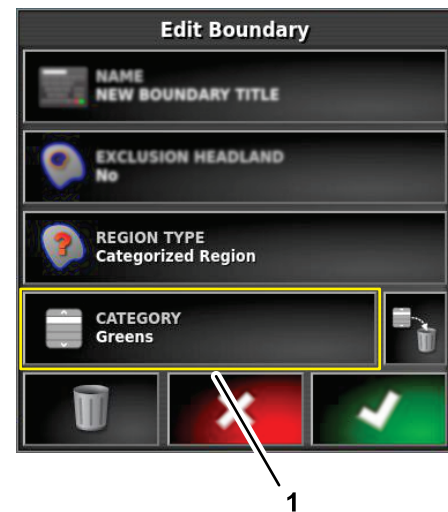

Figure 67
5. The selected category type displays, and press the confirm icon (Figure 67).